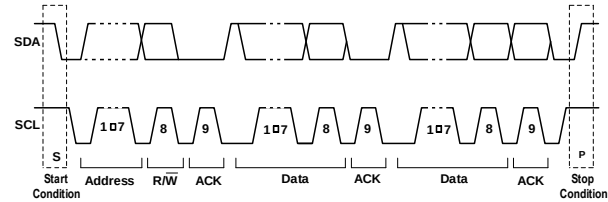

Figure 10: Complete Data Transfer
Figure 10 shows the data transfer format. After the start (S) condition, a slave address is sent. This address is 7 bits long followed by an eighth bit, which is a data direction bit (R/W). A 0 indicates a transmission (write), while a 1 indicates a request for data (read). A data transfer is always terminated by a stop (P) condition
condition generated by the master. However, if a master must continue to communicate on the bus, it can generate a repeated start (Sr) condition and address another slave without first generating a stop condition (see Figure 10).